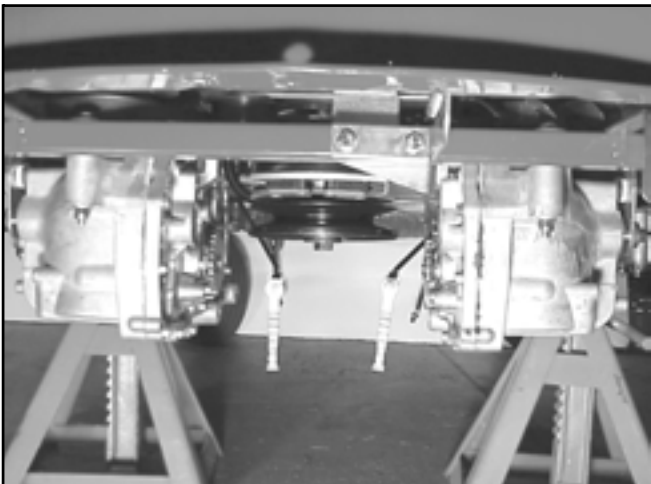

Figure 48
8. Leave the two brake arms disconnected from the transaxles. Make sure the brake arms are clear of the cog brake discs (Figure 48).